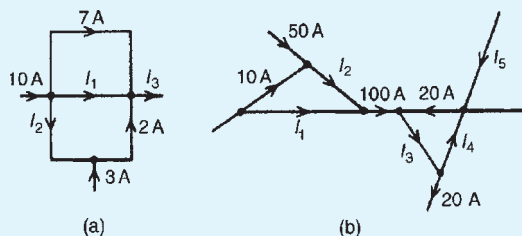

Figure 13.12
2. For the networks shown in Fig. 13.12, find the values of the currents marked.